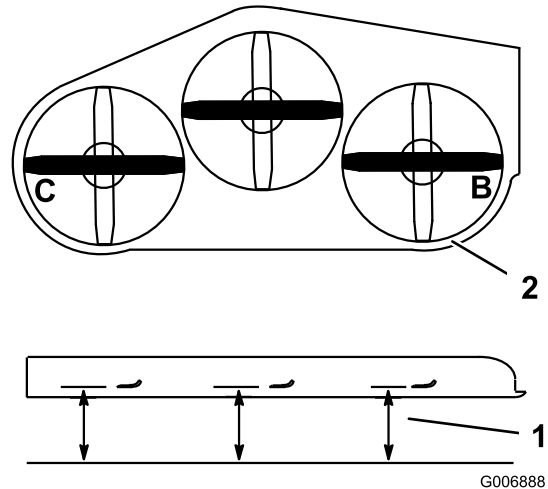

Figure 91
4. Measure at the **B** and **C** locations from a level surface to the cutting edge of blade tips (Figure 91).